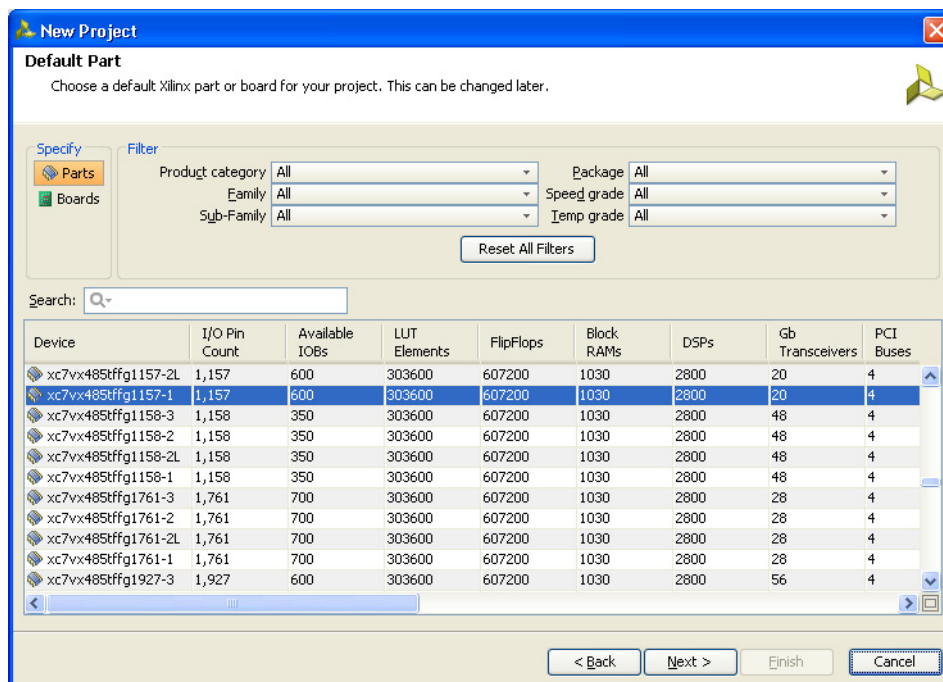

Figure 2-8: Default Part (Default Window)
8. Click **Next** to proceed to the Default Part page (Figure 2-8) where the device that needs to be targeted can be selected. The default Part page appears as shown in Figure 2-8.